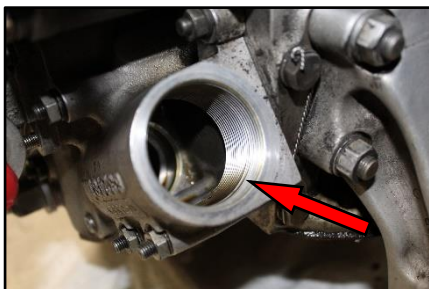

Figure 1
2. If applicable, remove the oil temperature probe, oil screen, and any other airframe or engine parts necessary to gain access to the work area in accordance with the engine and/or airframe manufacturers' instructions. Clean the threads inside the oil screen housing and lubricate them with clean engine oil, see Figure 1.